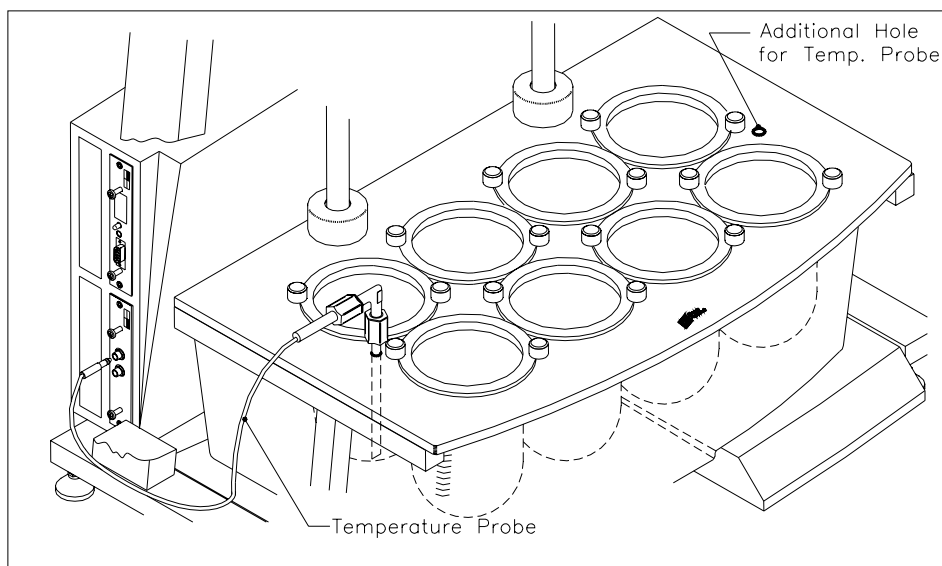

Figure 4-13: Temperature Probe Installation
12. Install the temperature probe(s). (see Figure 4-13)